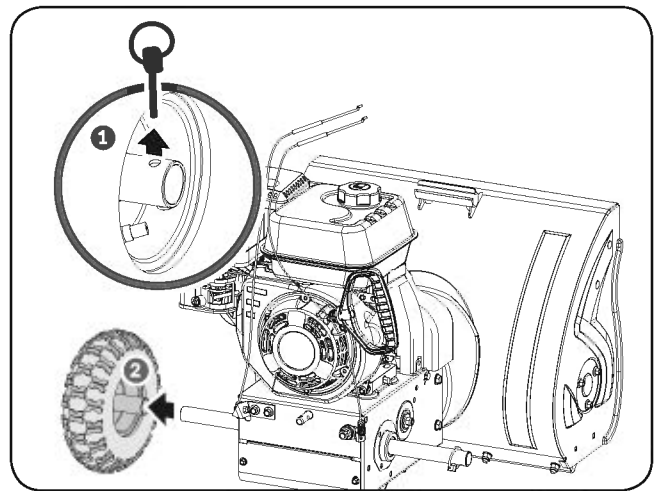

Figure 2a
1. Remove the axle pin from the axle. (See **Figure 2a**)